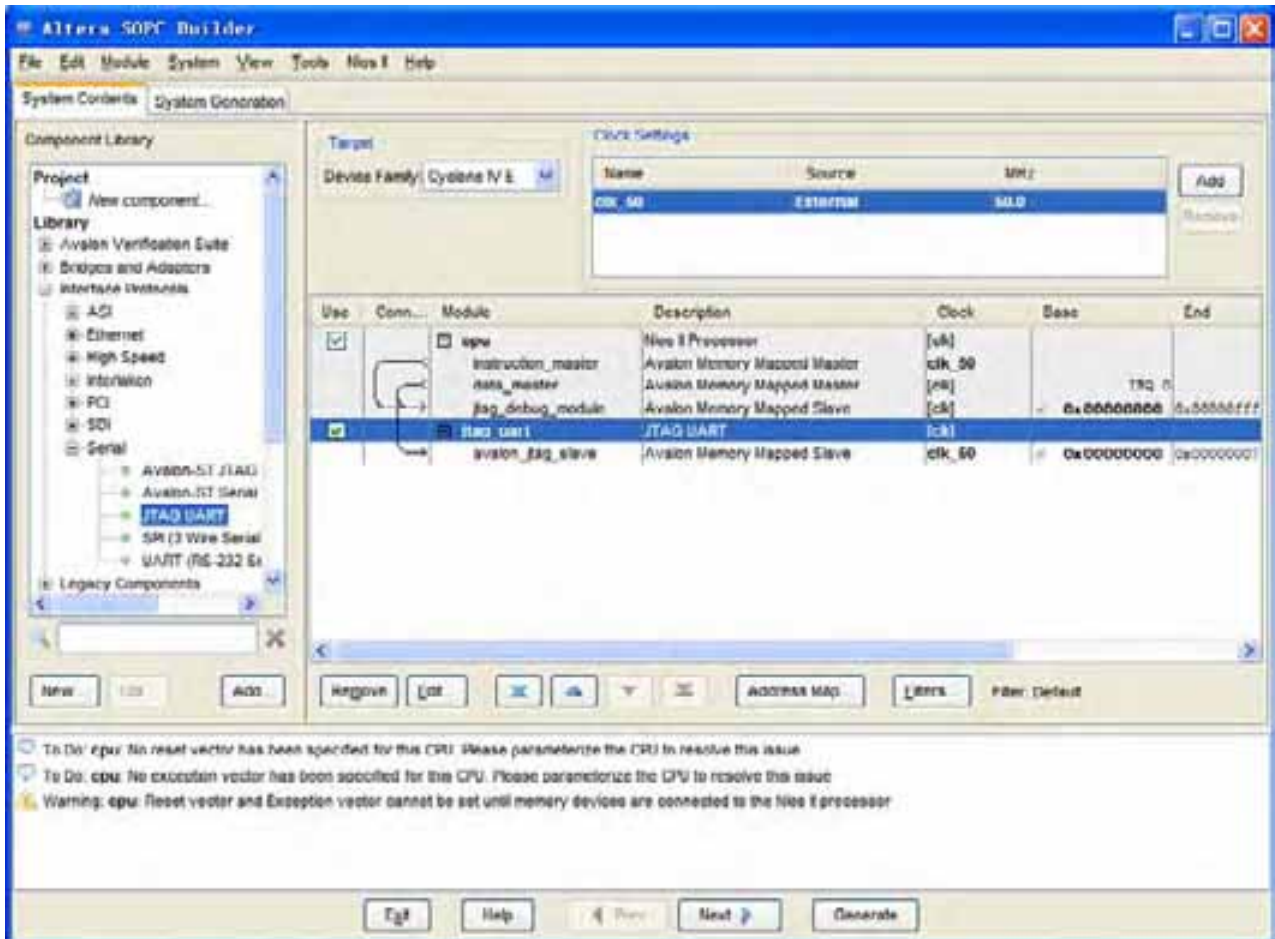

Figure 7-22 Rename JTAG UART
13. Select the **jtag_uart_0** component and rename it to **jtag_uart** as shown in Figure 7-22.